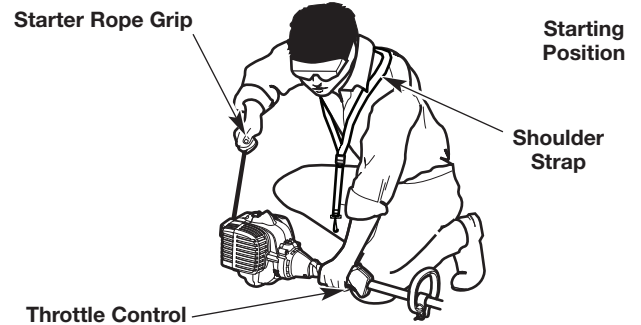

Fig. 16
**WARNING:** Avoid accidentally starting the unit. To avoid serious injury, the operator and the unit must be in a stable position when pulling the starter rope (Fig. 16).
3. Put the shoulder strap over the operator's head and onto the left shoulder (Fig. 16).
3. Crouch in the starting position (Fig. 16).
5. Pull the starter rope with a controlled and steady motion **5 times** (Fig. 16).